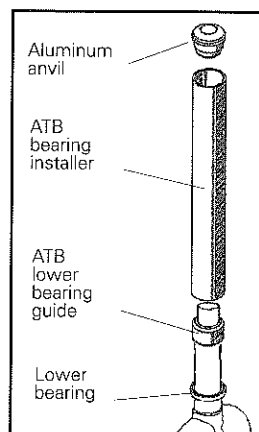

Fig. 38
17. Place the **ATB lower bearing guide** over the end of the steerer.(Fig. 38)